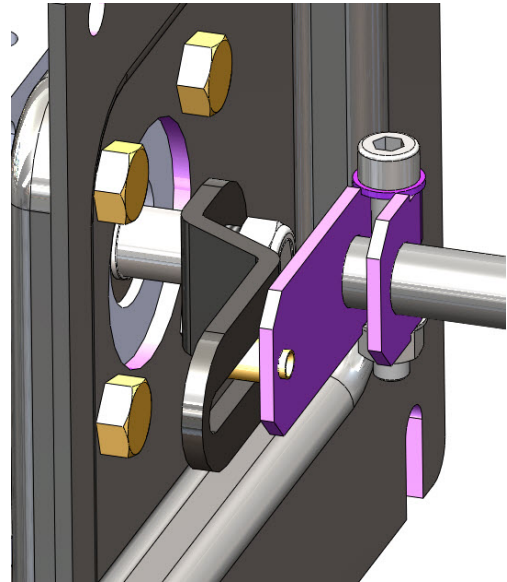

Figure 19: NR-S Assembly
- 3 Rotate the follower arm so that the take-off pin will slide into the slot on the follower arm. Adjust the bracket position as needed noting the engagement of the follower pin and the take-off arm slot. The pin should extend approximately 2 mm past the take-off arm. When properly adjusted, securely tighten the bracketing bolts. See Figure 19: NR-S Assembly.